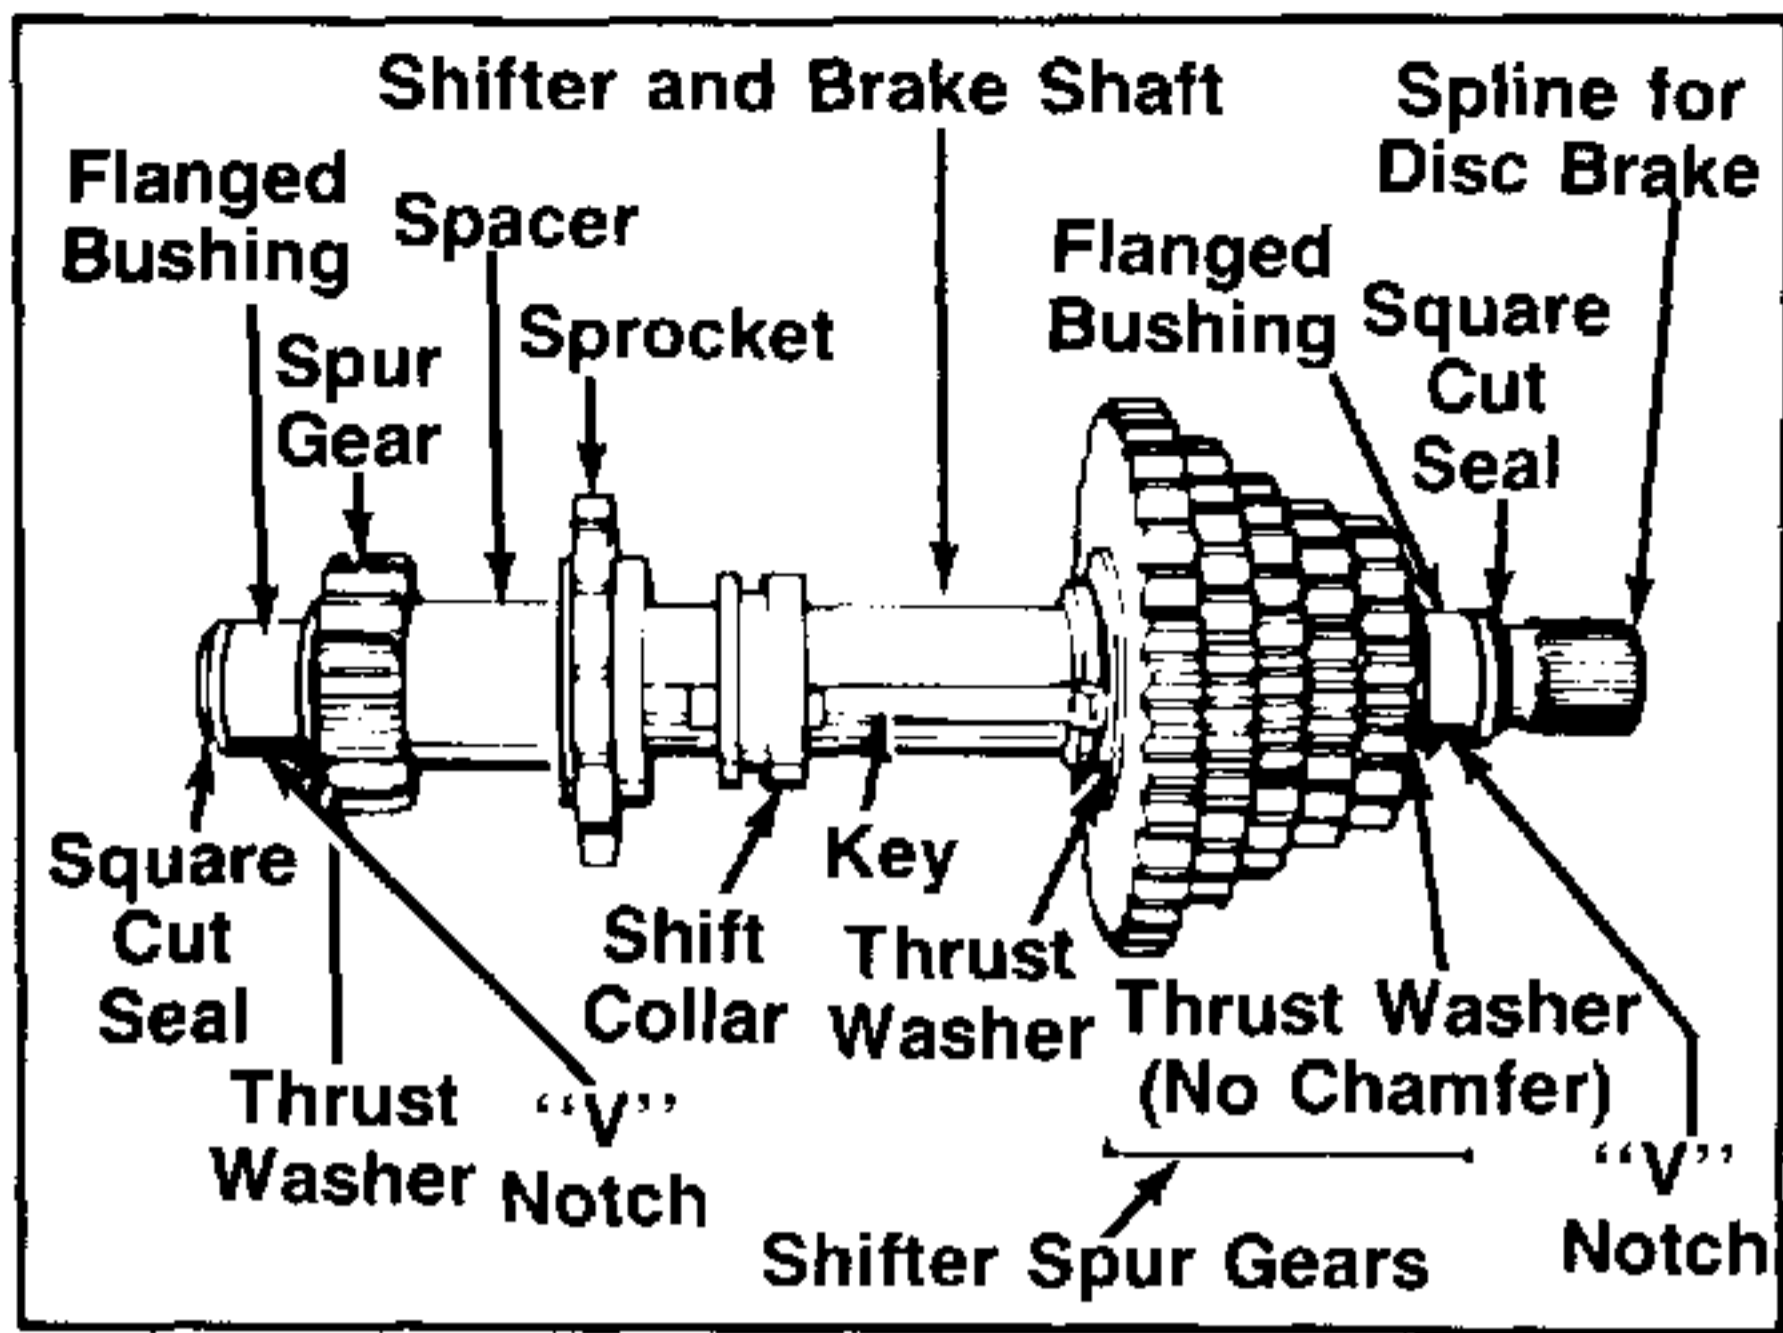

FIGURE 25.
- NOTE: The thrust washer on the shift gear end, of the shifter and brake shaft, does not have a chamfer on the inside diameter. Install sprocket, spacer, spur gear, and thrust washer on output shaft. Be sure collar on sprocket faces the shift collar. Install bushings on both ends of shifter and brake shaft, install square cut "O" rings on end of flanged bushings. See figure 25.